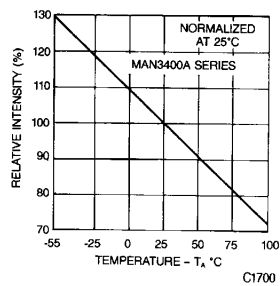

Fig. 3. Relative Luminous Intensity vs. Temperature
2. The curve in Figures 3, 6, 9, and 12 is normalized to the brightness at 25°C to indicate the relative Luminous Intensity over the operating temperature range.